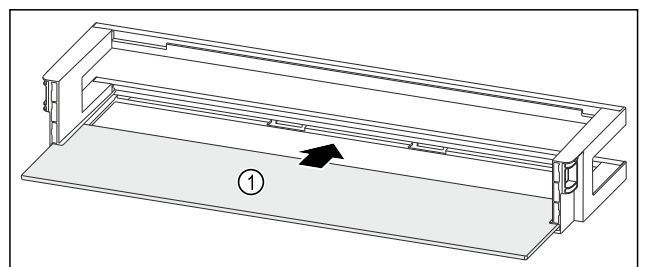

Fig. 238 Door rack with shelf
- ▶ Push the shelf Fig. 238 (1) into the side recesses.